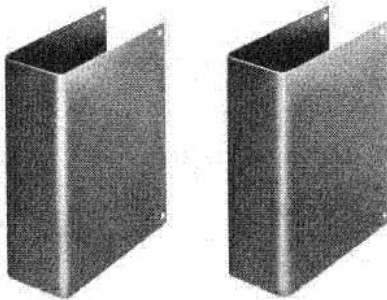

Fig. 32—Covers per ED-95023-70
6.05 The covers per ED-95023-70† (Fig. 32) are used to conceal the exposed portion of ED-95023-01 metal stands where appearance is important. Eight RHM screws are furnished with the covers.